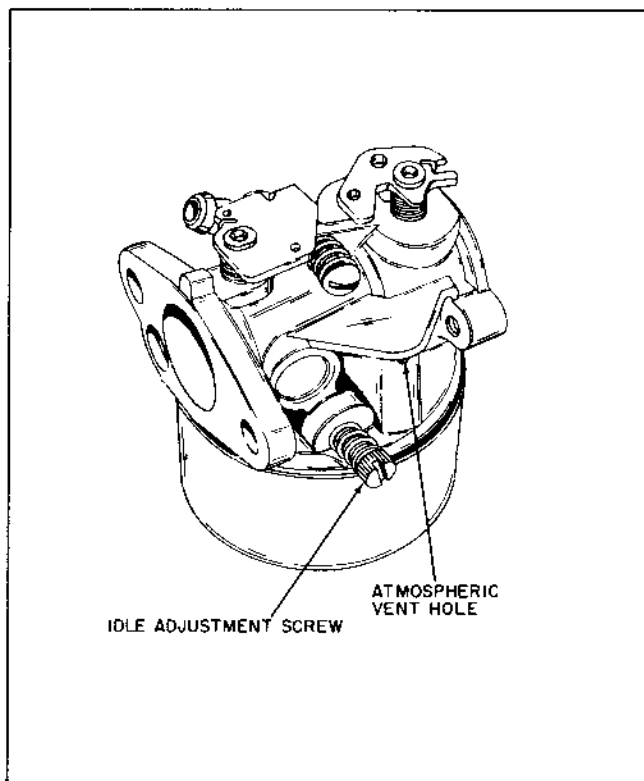
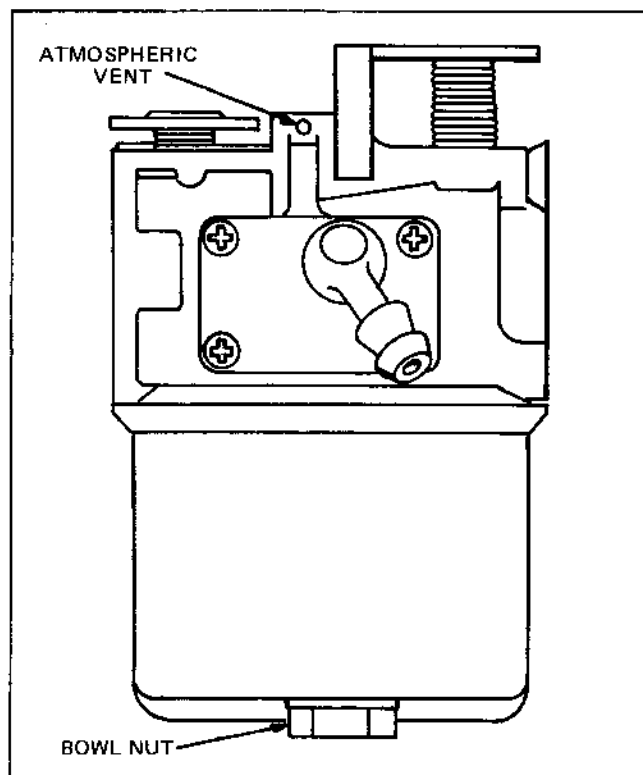

Figure 2-22
Figure 2-23
T. FIXED MAIN JET TYPE CARBURETOR. This type carburetor functions similar to the conventional, fully adjustable carburetor, except the fuel retaining bowl nut has the fixed main jet incorporated. Figures 2-22, 2-23.
The atmospheric vent holes may be found either in type shown in Figure 2-22 or the atmospheric vent hole may be located at the top of the casting. (See Figure 2-23.)